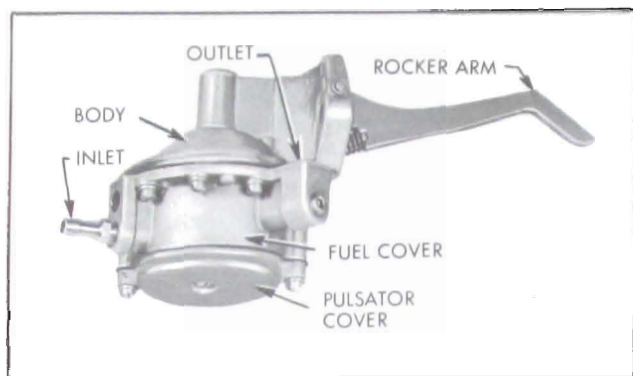

Figure 3-14—Location of Pump Parts
1. Mark edges of fuel cover and pump body with file so that cover may be reinstalled in its original position on body. See Figure 3-14.